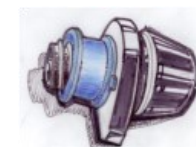

Fig. 6—Grommet Clasp over component anchor bolt
7. Place Grommet Clasp over component anchor bolts, under stock washer (Fig. 6).